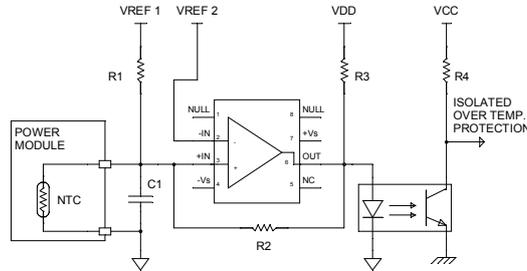

Fig 2: Example of NTC thermistor comparator circuit
The NTC thermistor can easily be used for module protection without computing the actual thermistor temperature. Comparing the voltage across the NTC thermistor to a reference voltage (see figure 2), and stopping the operation of the module if it becomes too hot reduces the risk of module failure.
If the NTC thermistor is placed in the bottom leg of a voltage divider as in figure 2, the resulting voltage at the input of the comparator decreases from almost $VREF_1$ to the voltage trigger level $VREF_2$ as the NTC thermistor temperature increases.
In practice, a comparator with hysteresis is used, and resistors R_1 and R_2 must be adjusted to set the amount of hysteresis. The hysteresis equals the output swing of the comparator attenuated by the resistive divider of R_1/R_T and R_2 . Assuming rail-to-rail output swing of the comparator in figure 2,
To increase the noise immunity of the NTC thermistor, which exhibits a resistance of a few thousand Ohms at rated temperature, it is recommended to parallel a capacitor. This capacitor (C_1 in figure 2) must be between 10 to 100nF. Even using a 100nF decoupling capacitor, which guarantees a very high noise immunity level, the time constant at 25°C is only 320 microseconds, e.g., $\tau = (R_1 // R_T) \cdot C_1$, more than 1000 times lower than the time constant of the NTC thermistor itself. In most cases, a 10nF decoupling capacitor is more than enough to ensure good noise immunity.
We know the values of $B_{25/85}$, T_{25} , and R_{25} : for example 3952K, 298.15K, and 50kΩ respectively. Once we determine the value of R_T we can compute the temperature. Referring to figure 2, the voltage V_T across the NTC thermistor is
- The NTC thermistor is used in a comparator circuit, which is isolated from the control logic by an opto-coupler (see figure 2). Usually other protections like short-circuit, over-current, over-temperature, etc. are also performed at the switch level. The resulting fault signals can all be summed together and transmitted via the same opto-coupler.